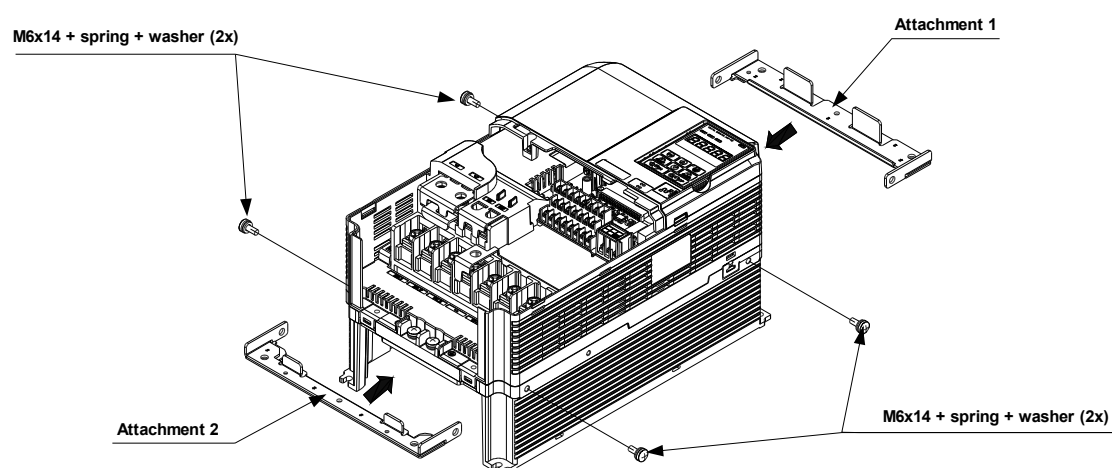

Figure 7: Step 2 - 2A0081
2. Fix Attachment 1 to the top and Attachment 2 to the bottom of the inverter. Use the holes at the side of the device and screws M6x14 with spring and washer like shown in Figure 7.